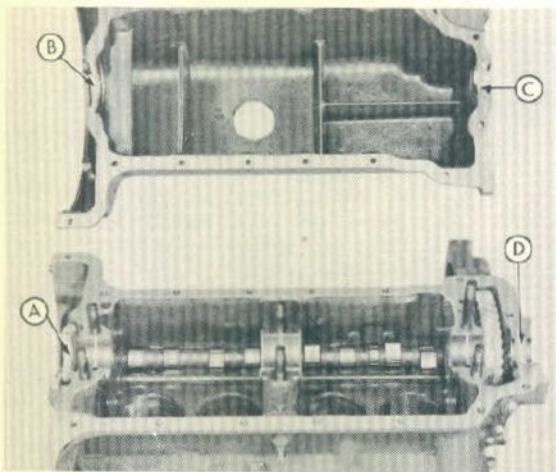

Fig. 5
Step 1—Remove the upper front (D-Figure 5) and rear oil seal halves, (A-Figure 5). The rear oil seal is in the block and the front oil seal is in the timing gear cover.
Step 2—Remove the lower front oil seal (C-Figure 5) and rear oil seal (B-Figure 5) from the pan.